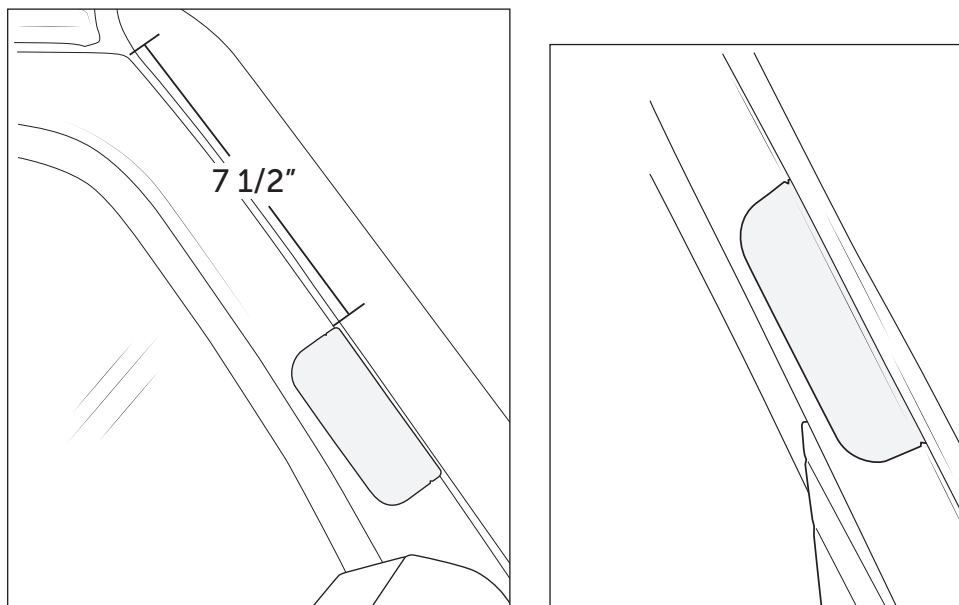

Figure 16
2. Clean surface of windshield frame, door, and A pillar inside of door opening. Measure 7.5" down from top edge of door frame and install one piece of paint protection film with large curved corners as shown (fig. 16). Align notches with door edge and stick down film with long side toward outside of vehicle. Slowly wipe down the sides from the door edge outward both directions to prevent bubbles.